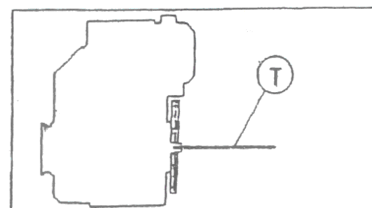

Fig. 1
1. Clamp the flange on the drive motor (Fig.1)
2. Apply the rod-T for the axial clamping of the rotor and screw it tight on the engine shaft (Fig. 1)